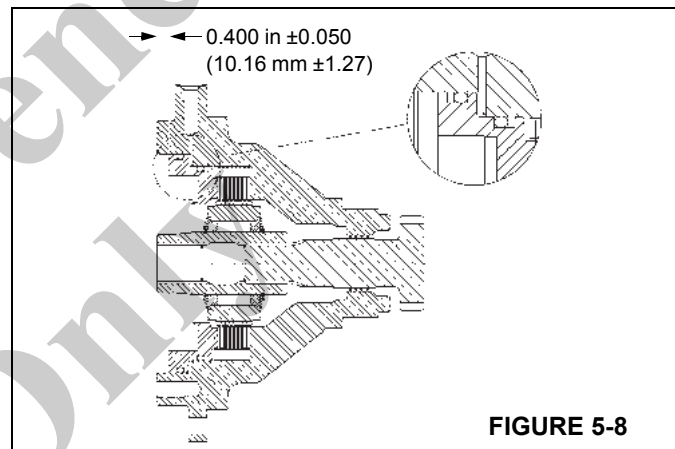

FIGURE 5-8
14. After installation, check the brake stack-up to make sure that the dimensions are within the tolerance shown in Figure 5-8. If your measurement is greater than shown, either some friction discs and stator plates have been left out, or the friction discs are worn beyond acceptable tolerances. If your measurement is less than shown, too many plates or discs have been inserted or they are not seated properly.
15. Coat the new O-rings and backup rings (Items 7-3, 7-7, 7-8, and 7-9) with light oil and install onto the piston (Item 10). See Figure 5-8 for proper O-ring/backup ring installation.